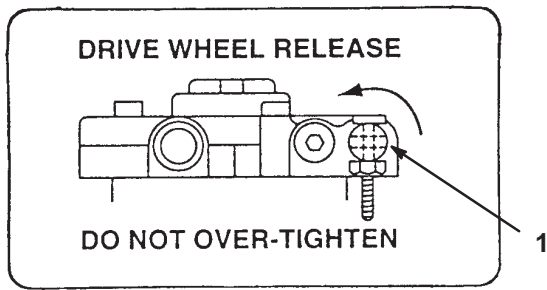

Figure 27
2. Rotate the by-pass valves counterclockwise 1 turn to push. This allows hydraulic fluid to by-pass the pump enabling the wheels to turn (Fig. 27).
1. Turn the by-pass valves in to operate (Fig. 27).